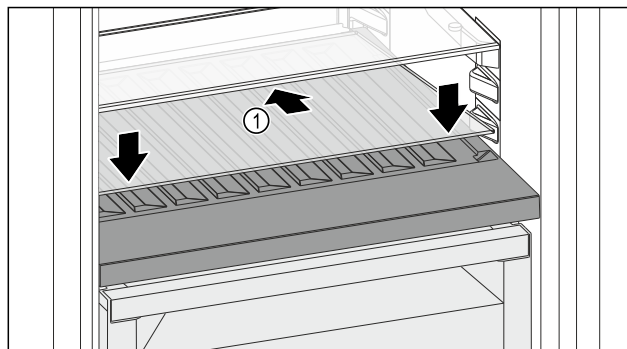

Fig. 88
- Place the glass shelf Fig. 88 (1) at an angle, sloping it downwards and backwards.
- Lower the glass shelf Fig. 88 (1) at the front.